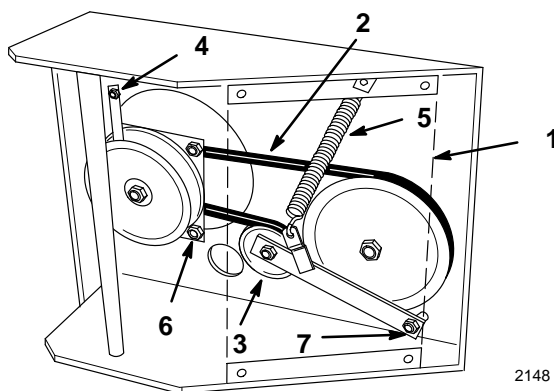

Figure 31
1. Raise the front of the machine and hold with jack stands. Remove lower shield (4) bolts.
3. Remove left front engine mounting bolt securing clutch retainer to frame (Fig. 31). Unhook retainer from clutch and remove retainer.
4. Unhook tension spring from side of frame (Fig. 31).
7. Torque pivot bolt to 47-54 N.m (35-40 ft. lb.) Install tension spring between idler arm and frame bracket (Fig. 31).